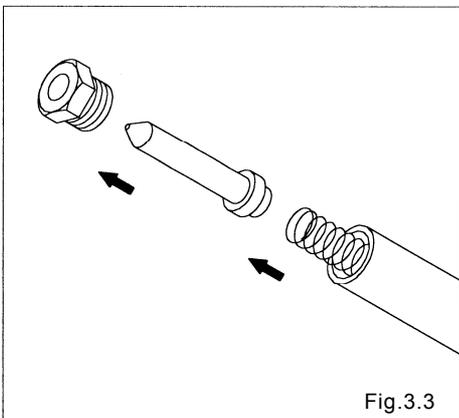

Fig.3.3
- Remove the nut, and remove the valve from the center rod. [Fig.3.3]